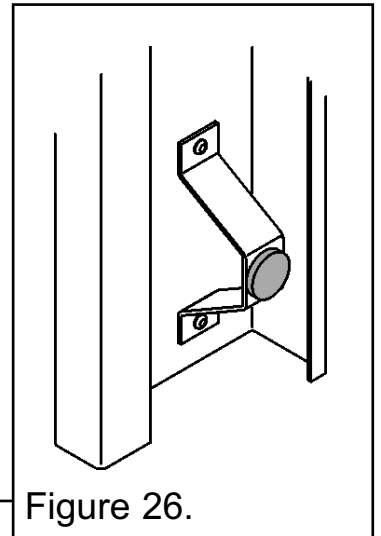

Figure 26.
2. There are eight magnets supplied with the fascia. Fit one magnet to each of the two brackets at the base of the fascia (See figure 26).